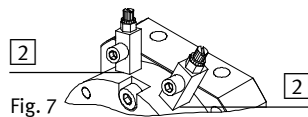

Fig. 7
- Use GRLA one-way flow control valves for setting the swivel speed. These are screwed directly into the compressed air supply ports  (Fig. 7).